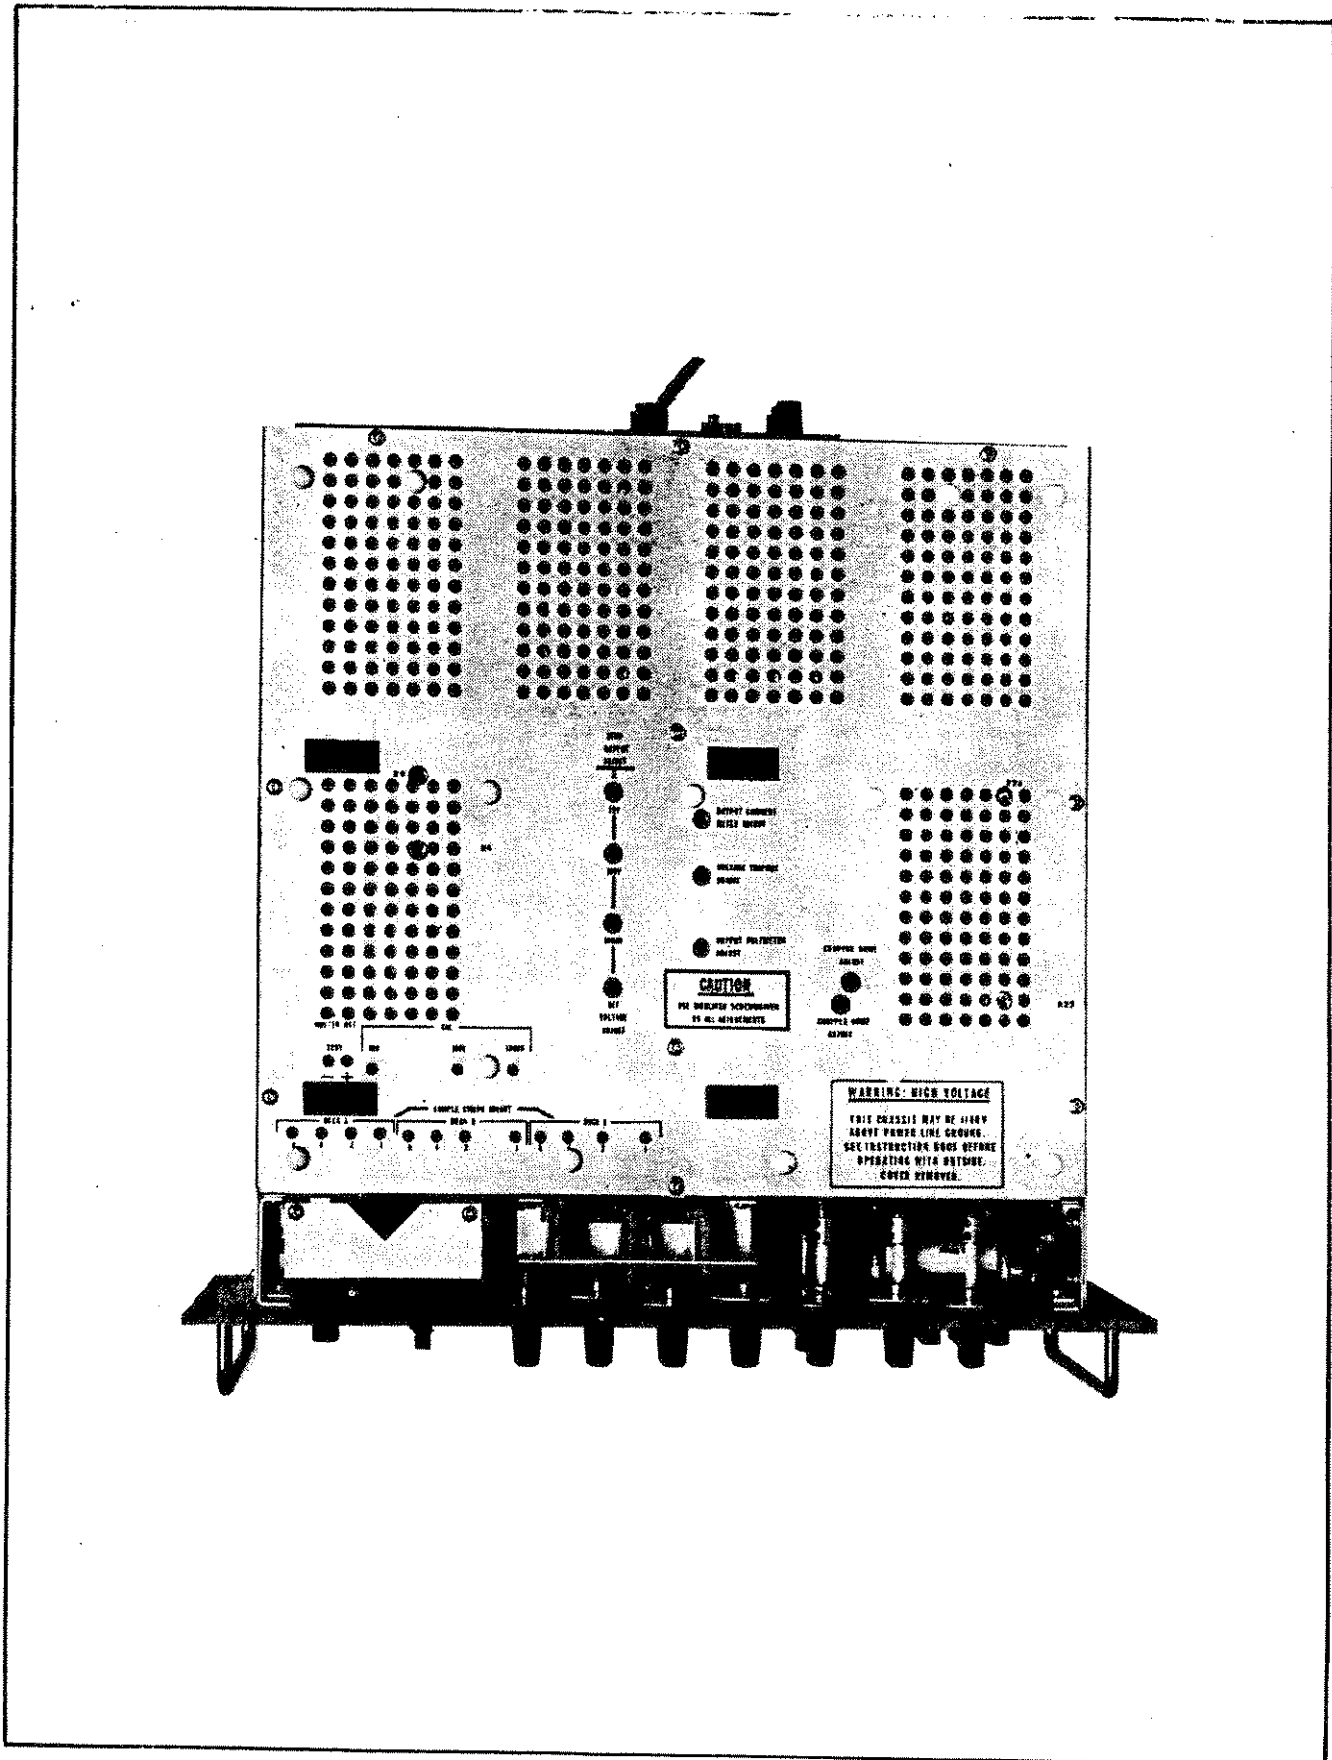

Figure 4-2. OUTSIDE COVER REMOVED
- d. Set instrument vertically on handles and withdraw outside cover while guiding ac power cord through hole in rear of outside cover. See Figure 4-2